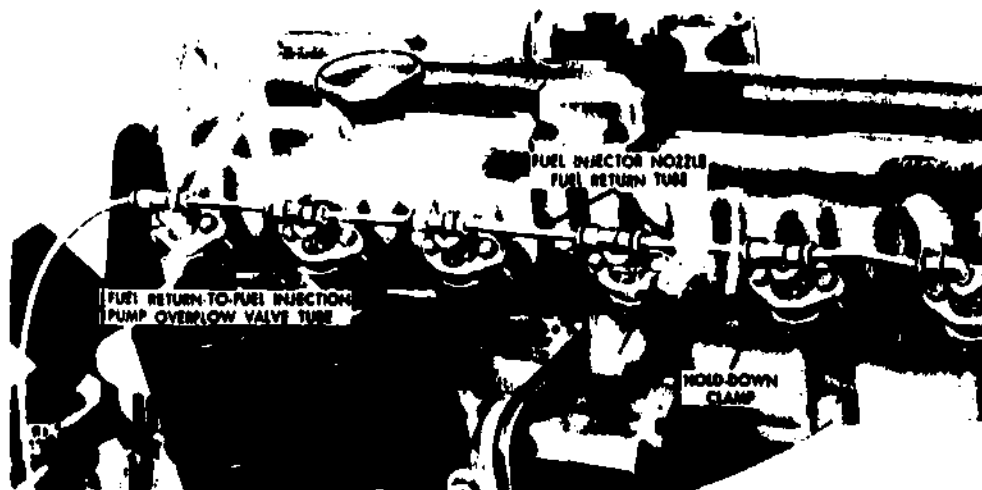

Fig 4-5. High pressure lines.
f. High pressure lines. Inspect the high-pressure lines, fuel injector nozzles, and fuel return lines for damage, leaks, and proper mounting (fig 4-5). Use a wrench to check the fuel injector nozzle mounting bolts for looseness. Any bolts that are loose should be tightened with a torque wrench. Use extreme caution when checking for leaks or working near high-pressure fuel lines. The fuel is under enough pressure to puncture your skin and could cause blood poisoning. Keep your hands away from suspected leaks while the engine is running.